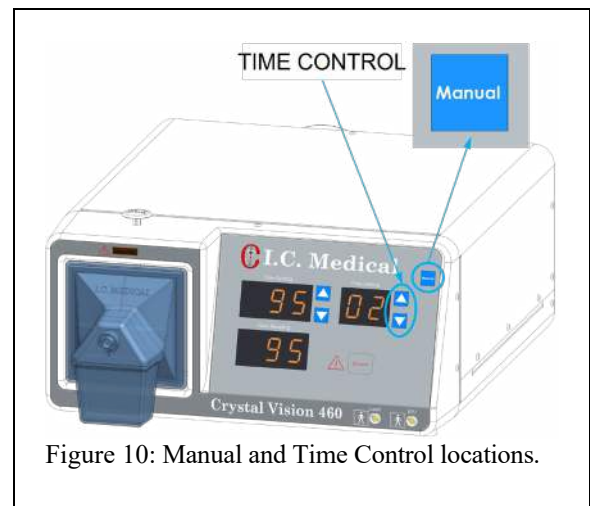

Figure 10: Manual and Time Control locations.
2. Adjust the TIME by pressing the push buttons (Figure 10) until the TIME display reads 2 SECONDS. The pump should operate when the ESU Sensor or Laser Foot Switch is activated and stops within approximately 2 seconds after the foot switch is released.
3. The pump should operate when the MANUAL push button (Figure 10) on front panel is depressed and stop operating within approximately 2 seconds after the button was released.